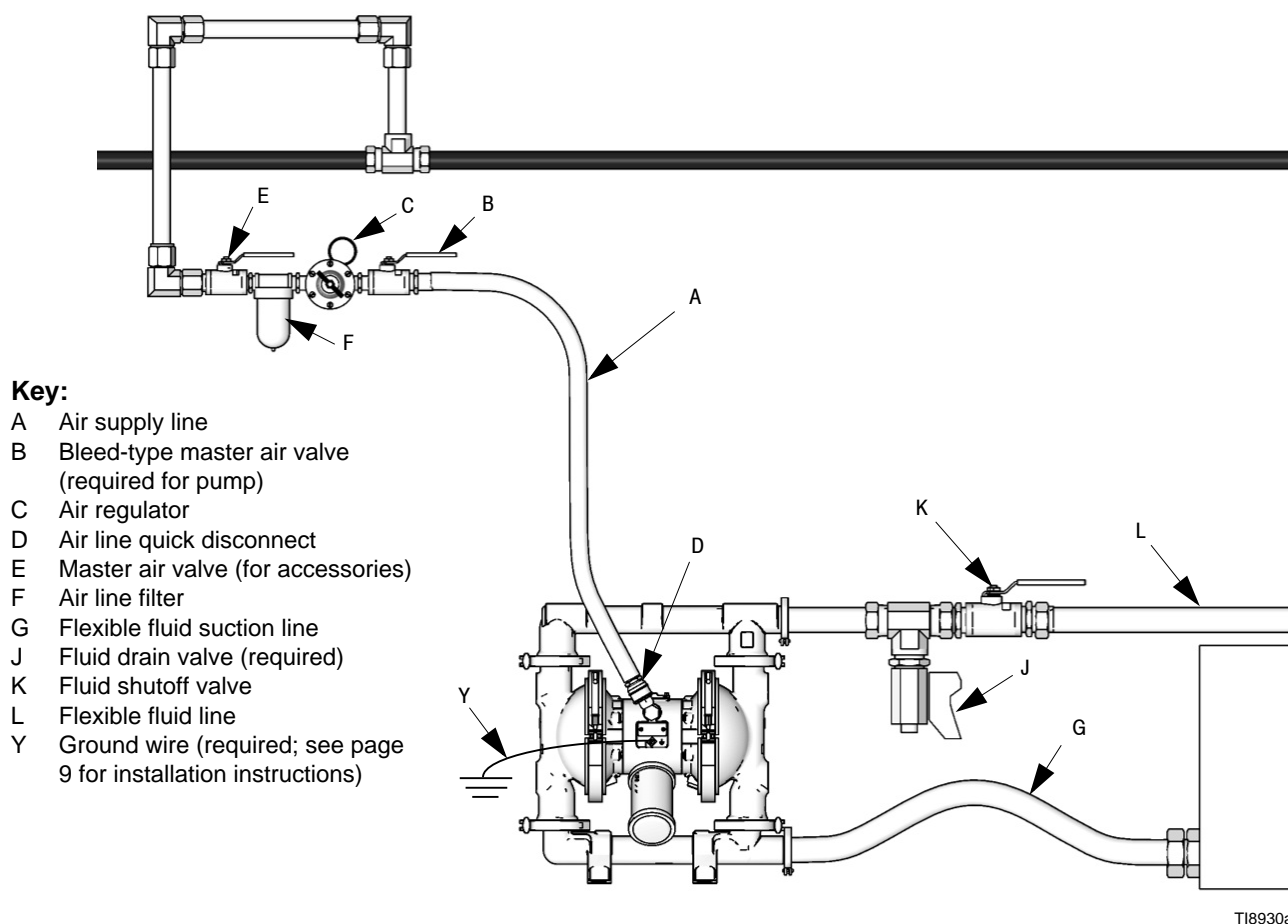

FIG. 2 Typical Floor-Mount Installation
A bleed-type master air valve (B) is required in the system to relieve air trapped between this valve and the pump. Trapped air can cause the pump to cycle unexpectedly, which could result in serious injury, including splashing in the eyes or on the skin, injury from moving parts, or contamination from hazardous fluids. See FIG. 2.
1. Install the air line accessories as shown in FIG. 2. Mount these accessories on the wall or on a bracket. Be sure the air line supplying the accessories is grounded.
- a. Install an air regulator (C) and gauge to control the fluid pressure. The fluid outlet pressure will be the same as the setting of the air regulator.
- b. Locate one bleed-type master air valve (B) close to the pump and use it to relieve trapped air. See the **WARNING** above. Locate the other master air valve (E) upstream from all air line accessories and use it to isolate them during cleaning and repair.
- c. The air line filter (F) removes harmful dirt and moisture from the compressed air supply.
A fluid drain valve (J) is required to relieve pressure in the hose if it is plugged. The drain valve reduces the risk of serious injury, including splashing in the eyes or on the skin, or contamination from hazardous fluids when relieving pressure. Install the valve close to the pump fluid outlet. See FIG. 2.
1. Use flexible grounded fluid hoses (L).
3. Install a fluid drain valve (J) near the fluid outlet. See the **WARNING** above, and FIG. 2.
4. Install a shutoff valve (K) in the fluid outlet line.